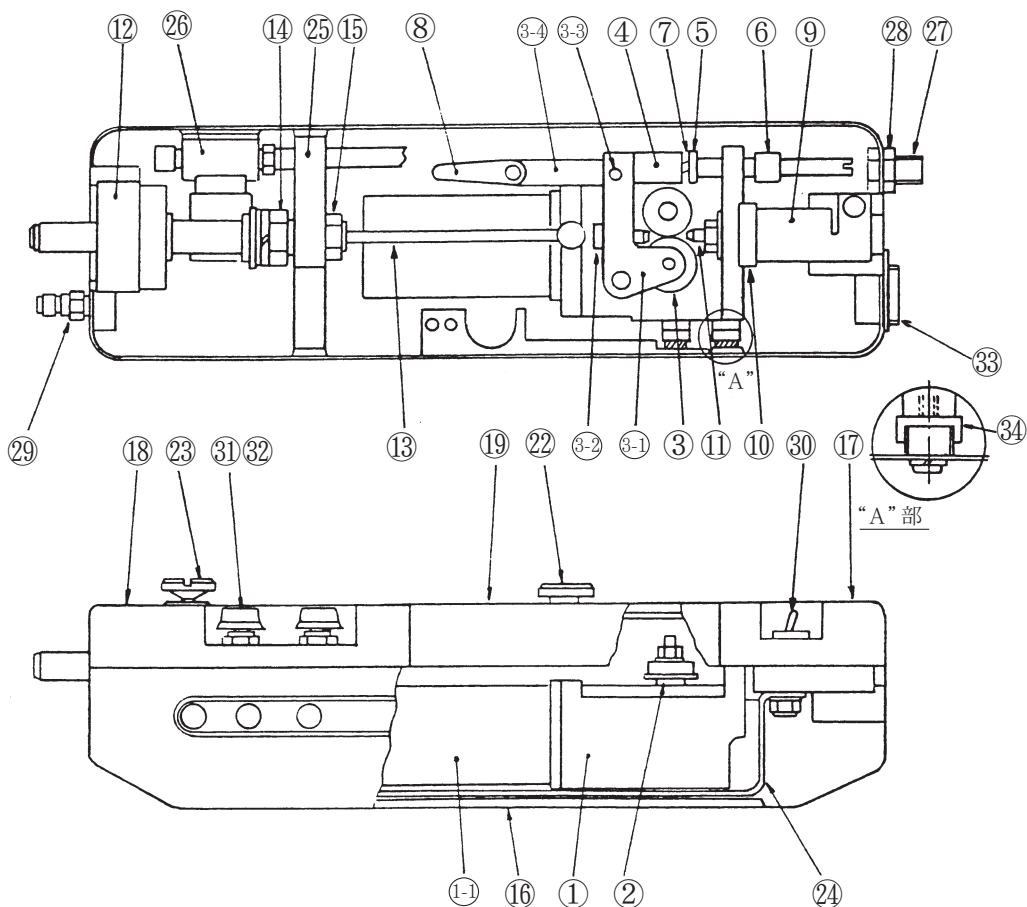

図1 CM-302形プルフィーダー部品構成図
Figure 1 consists of two schematic diagrams, (A) and (B), illustrating cable replacement methods. Diagram (A) shows a cable with a break, and a new cable segment is being added to extend the cable. Diagram (B) shows a cable with a break, and a new cable segment is being added to replace the broken segment. Both diagrams show the cable being replaced and the new cable segment being added.
11. 1 プルフィーダー (図1参照)